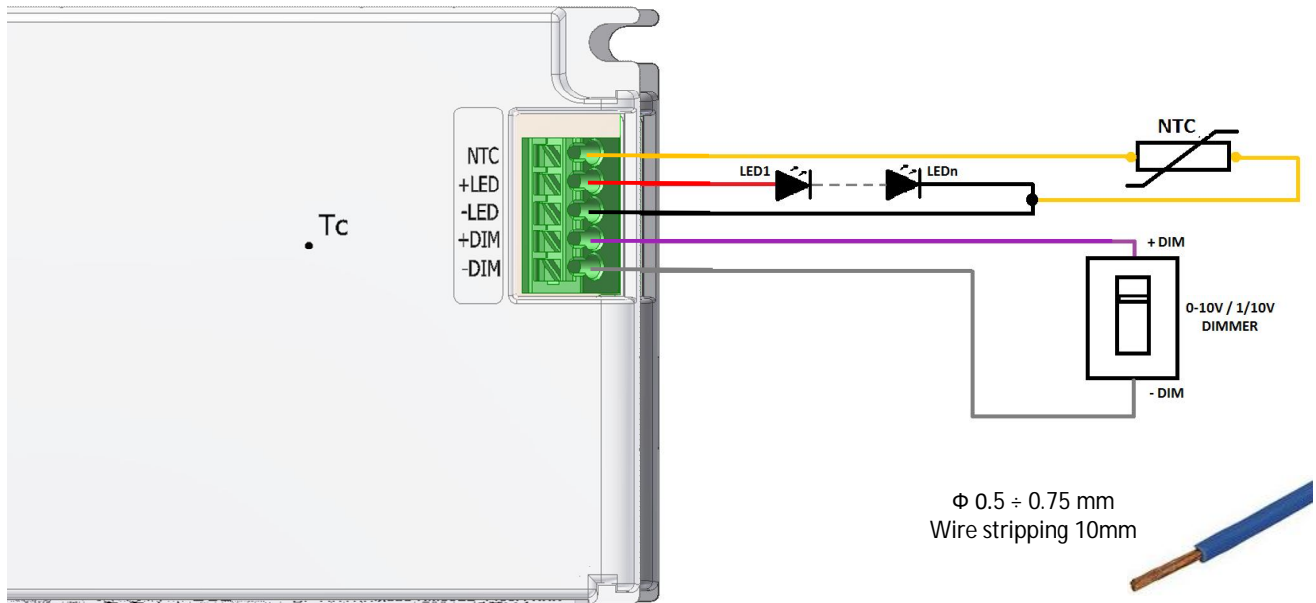

Figure 4: Meso 50W Output and Control Connections
Meso 50W LED Driver versatility permits the user to approach different driving solutions as shown below (see **Figure 4**). Consult the Datasheet (DS) for Output Voltages and Current ratings.